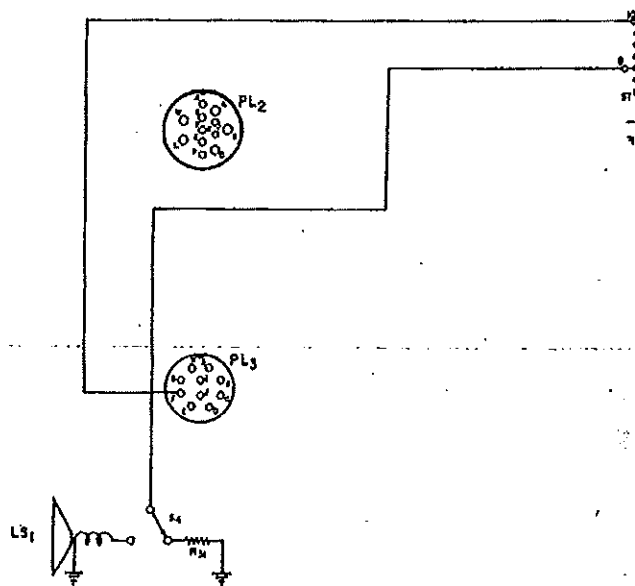

Fig. 19
- (f) In BC-669-B, and BC-669-C transformer T_0 has a 100 ohm secondary which is connected to Headset HS-30-(*), through contact F on plug PL_3 and through Remote Control Unit RM-21-(*). A 6 ohm tap is provided on T_0 secondary and is connected to switch S_4 . (See Fig. 19).
- (1) In position 1 meter M_2 is connected in series with the high voltage plate supply circuit of modulator tubes V_{12} , V_{13} , V_{14} and V_{15} , with resistor R_{63} as a shunt, for indicating modulator plate current.
- (2) In position 2 this meter is connected in series with the secondary of modulation transformer T_{12} in the high voltage plate supply circuit of power amplifier tubes V_8 and V_9 , with resistor R_{64} as a shunt, for indicating power amplifier plate current.
- (3) In position 3 meter M_2 is connected in the control grid circuit of tubes V_8 and V_9 through contact 7 of plug PL_1 and socket SO_1 for indicating power amplifier grid current.
a. *Electrical Circuits*—(See figure 19.) Remote Control Unit RM-21-(*) contains circuits for the control of Power Unit PE-108-(*), switching from transmit to receive, voice modulating the transmitter, and operation of handset or microphone from a remote position.